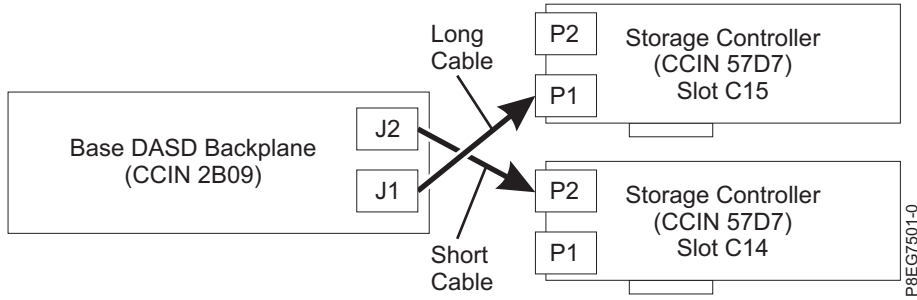

Figure 6. Reconnecting the SAS cable in a split disk configuration
- If you have two PCIe3 x8 SAS RAID internal adapters (CCIN 57D7) (split disk feature), the short SAS cable connects the upper disk drive backplane connector (J2) to the P2 connector on the adapter in slot P1-C14. The long SAS cable connects the lower disk drive backplane connector (J1) to the P1 connector on the adapter in slot P1-C15. See Figure 6 on page 8.